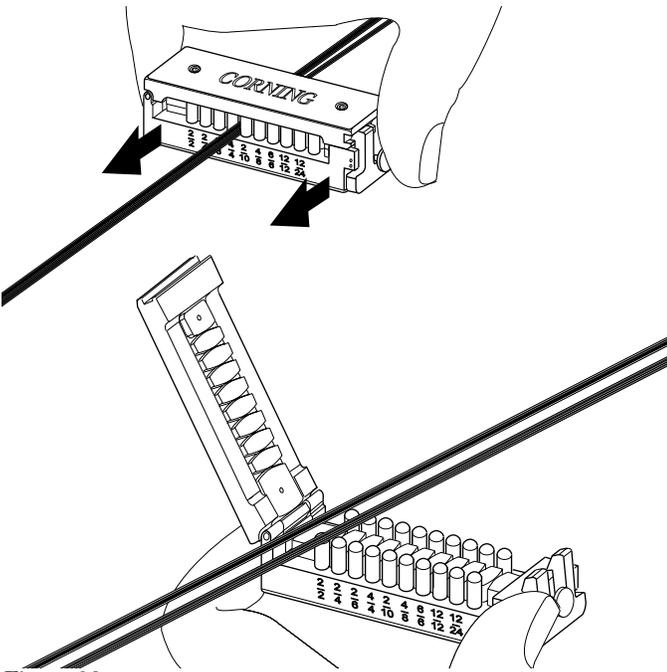

Figure 29
7.4 If appropriate for your installation, divide the ribbon(s) using the RST-000 tool and the instructions in Section 6 of SRP-004-098 (Figure 29).